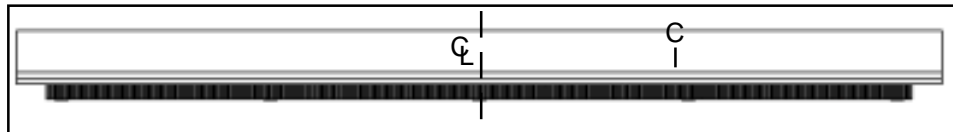

Figure 2: Placement of reference mark C on the V-guide.
7. Make a mark on the cross arm 3 5/8" right of center ("C" in Figure 2). This will serve as a reference line for centering the cross arm.